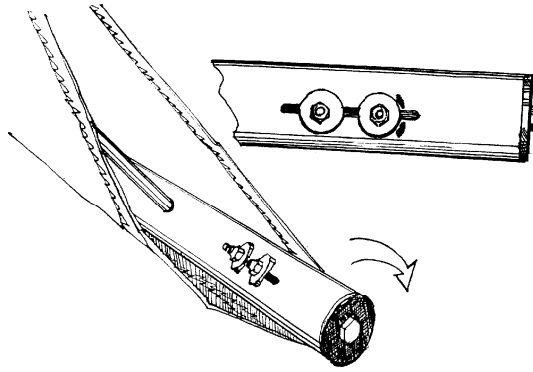

Fig.6
2.1.6. Rotate the bolt which is on the axle of the leading edge tube until the plastic saddles align according to the markings on the tube. (Fig.6).